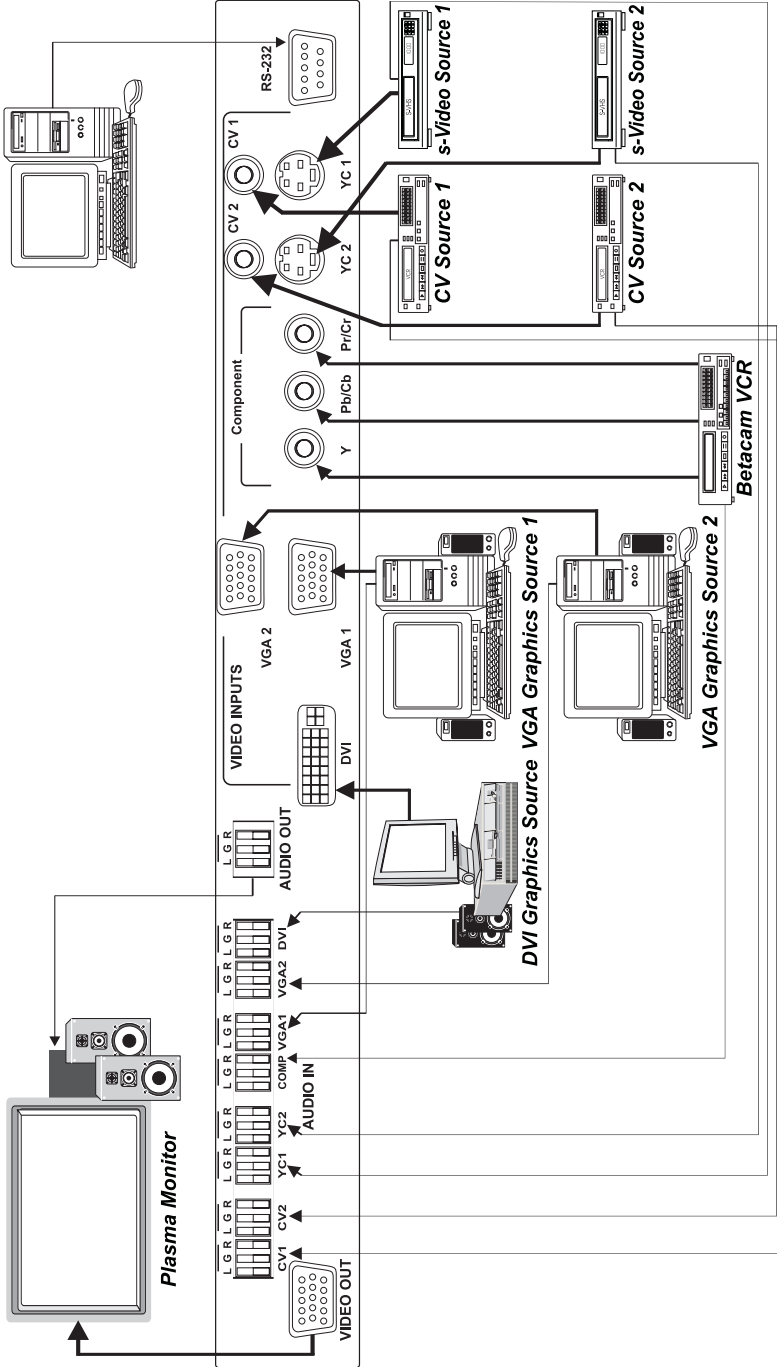

Figure 3: Connecting the VP-724DS Rear Panel
To connect the **VP-724DS**, connect the following4 to the rear panel, as the example in Figure 3 illustrates:
6 Alternatively, you can connect an RGB signal (not shown in Figure 3), as follows: RED to the “Y” connector, GREEN to the “Pb/Cb” connector, and BLUE to the “Pr/Cr” connector
7 Alternatively, you can connect a YUV signal to each HD15 connector (not shown in Figure 3), by connecting the “Y” connector to PIN 1, the “Pb/Cb” connector to PIN 2, and the “Pr/Cr” connector to PIN 3
2. Connect the stereo audio sources, as illustrated in Figure 3. In particular:
4. The power cord (the power connector is not illustrated in Figure 3).